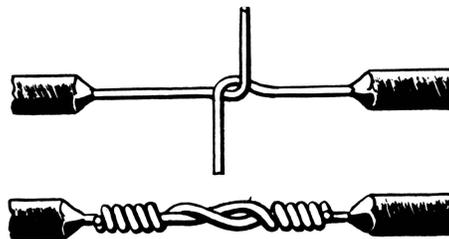

Fig. 1
3. Using a common wire splice, join a length of wire to each of the socket leads, leaving the one-inch stripped end free. (Figure 1)
NOTE: The two-lamp test unit can be made up in a similar manner with wires spliced as in Fig. 1.